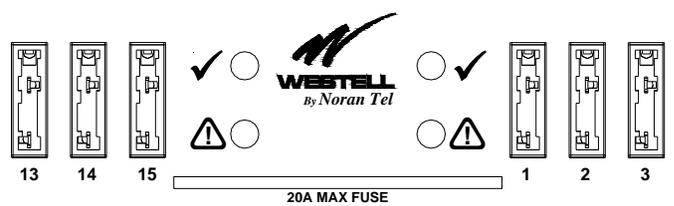

Figure 1.4.1
1.4. Alarm circuits are provided to alert service personnel of fault conditions. A fuse alarm is a blown fuse within a given bus. A red fuse alarm LED  on the faceplate will illuminate when a fuse alarm condition is present. As well, the green Normal Operation LED  will extinguish to signal a fuse alarm or input power failure and the appropriate relay contacts will change states. These fuse panels have common (C), normally open (NO) and normally closed (NC) terminals for alarms. Note, the use of the alarm contacts is optional, if you do not wish to extend the alarms, you don't have to do anything with the alarm pins. The "Normal" condition of the relay exists when the panel is powered up without any blown fuses. The local alarm LEDs are located on the front of the panel as shown in Figure 1.4.1
4.12 Install amperage marking labels as required below each fuse for identification of circuit rating (see fig 1.4.1). For fuse color codes please see table 4.12.1 below. Contact Westell for amperage marking labels.